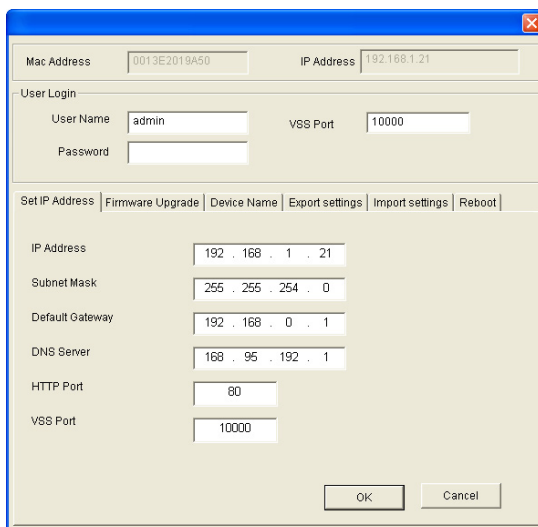

Figure 8-3
2. Double-click the GV-Compact DVR V3 in the list. Figure 8-3 appears.
1. In Figure 8-3, click the **Import Settings** tab. This dialog box appears.